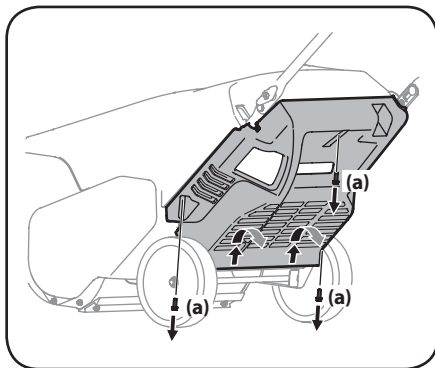

Figure 4-1
2. Remove the three screws (a) that secure the lower panel. Remove the lower panel by lifting up on the panel to free the tabs at the bottom of the panel from the tab slots and then pull back. See Figure 4-1.